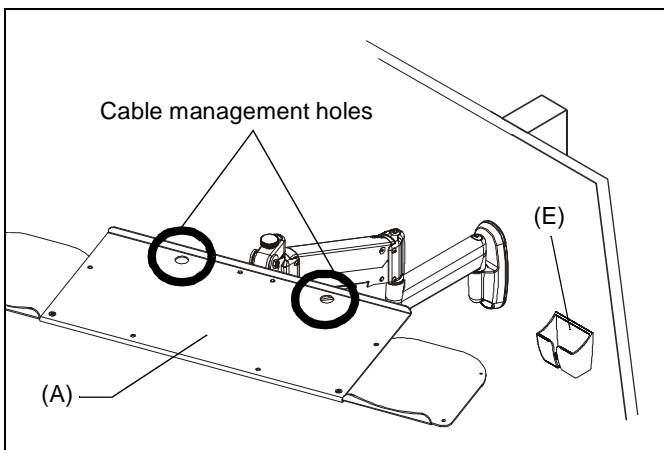
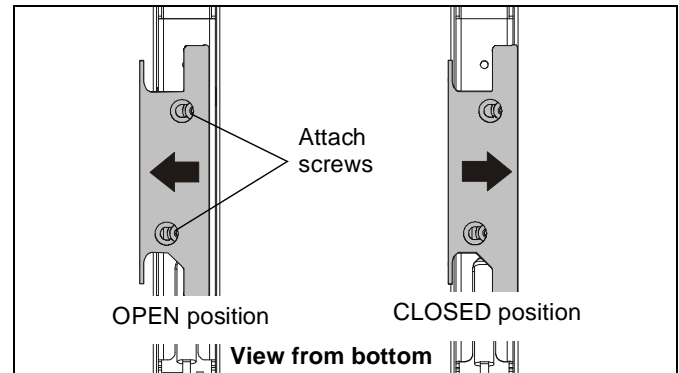

Figure 5
Figure 6
1. Remove paper from adhesive on mouse holder (E).
2. Place mouse holder (E) on wall at desired location. (See Figure 5)
1. Thread keyboard cable through one of two cable management holes along back edge of keyboard tray. (See Figure 5)
**NOTE:** If necessary, cable management bracket attach screws may be loosened using 3/16" hex key (K).
2. Open cable management bracket on upper portion of mount arm by sliding it towards edge of arm. (See Figure 6)